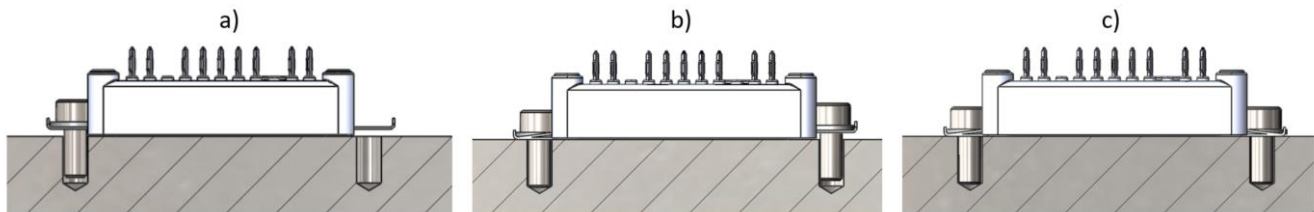

Figure 23. Mounting Method 3
**Method 3:** Insert one screw and tighten until the screw contacts the mounting tab without bending it. Next, insert the second screw and tighten to the recommended mounting torque of the module (2 – 2.3 Nm). Lastly, tighten the first screw to the recommended mounting torque of the module (Figure 23).